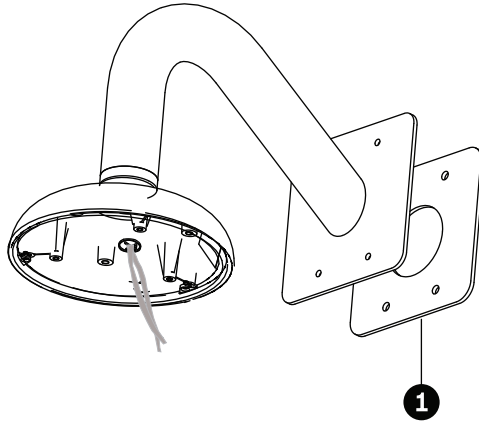

Figure 5.6 Secure arm to wall with flat gasket
- a. Thread the 21.82 mm I.D. by Ø3.00 mm O-ring (item 1, above) onto the lower arm threads.
- b. Secure the retaining ring gasket (item 2, above) to the dome cap with the three (3) M3 – .5 x 6 Phillips flat head machine screws. Ensure that the side of the retaining ring with the counter-sunk screw holes is facing you.
7. Feed the wires through the hole in the surface, through the wall mount flat gasket (item 1, *Figure 5.6*) and then through the arm.